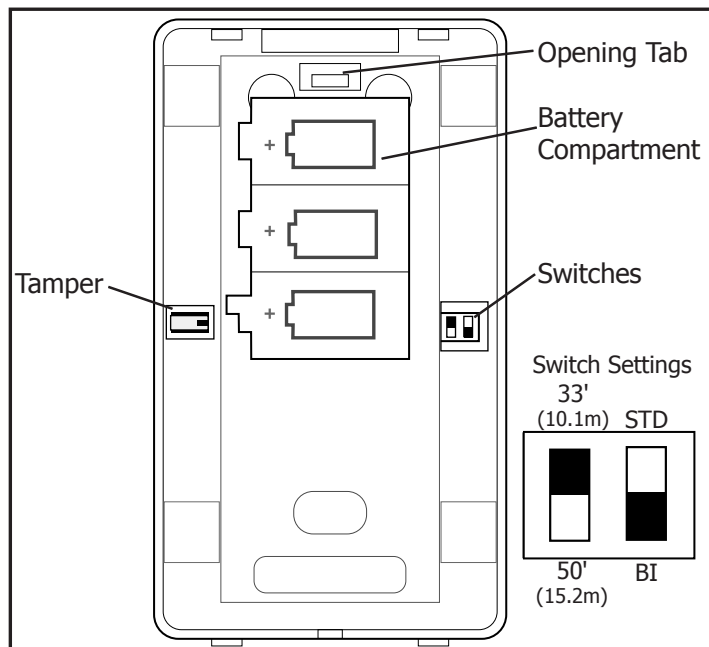

Figure 6: 1125 PIR Switches
Use the switches located on the unit back to set sensitivity and range, as shown in Figure 6. Use the following to determine the appropriate switch settings for an application.
2. Place the 3.0V Lithium batteries in the holder as shown in Figure 6 and press each one into place.